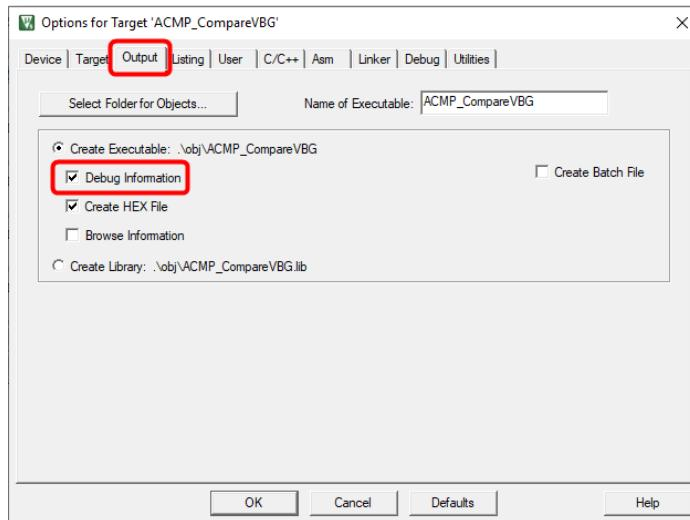

Figure 5.2-11 Enable Debug Information for Keil MDK
- (2) Invoke **Project → Options for Target → Output**, and enable the **Debug Information** option, as shown in Figure 5.2-11.